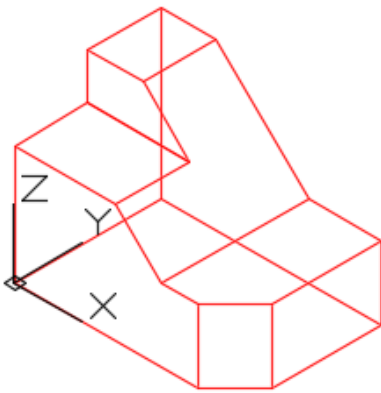

Figure Step 4
Step 4 Enter the UNITS command. In the Units dialogue box, set the Insertion Units to Inches. Using the INSERT command, insert the block: AutoCAD 3D Lab 01-1 at the coordinates 0,0,0. Explode the block that you just inserted. Your model should appear as shown in the figure. (Figure Step 4)